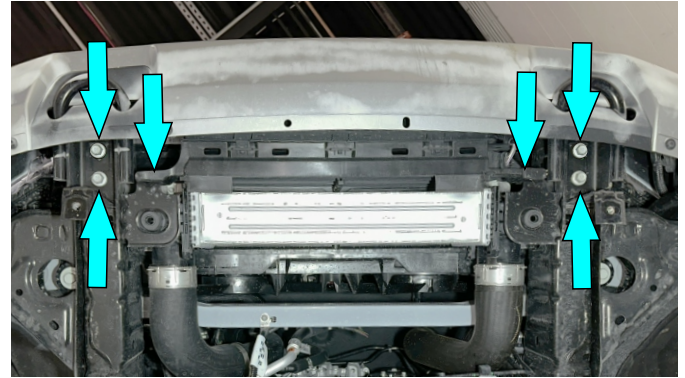

Fig. 2
2. Support the intercooler with a jack stand or other suitable device. Alternatively if working on one side at a time the intercooler will support itself on the hoses/bracket. Remove factory recovery points as shown in Fig.2.